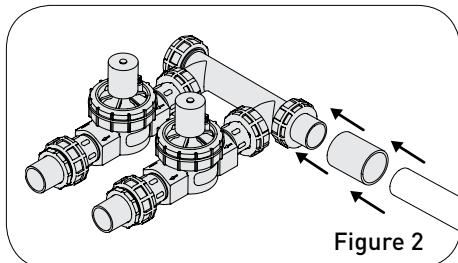

Figure 2
- For 1" PVC pipe, use a Coupler (H) between PVC Swivel Adapter and pipe (Figure 2)